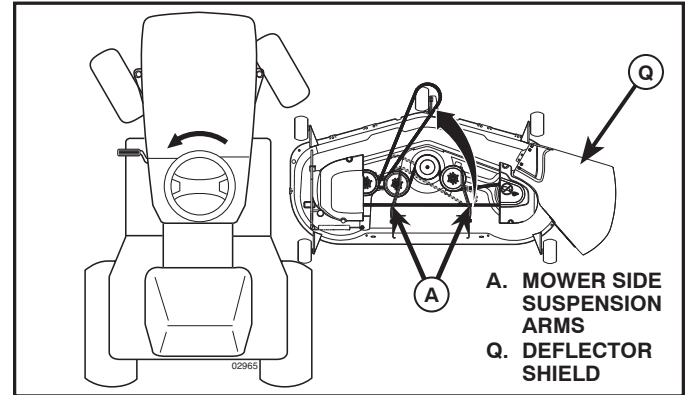

Fig. 7
4. SLIDE MOWER UNDER TRACTOR (See Fig. 7)
9 INSTALL BELT ON ENGINE CLUTCH PULLEY (M) (See Fig. 7 & 15)
- Disengage belt tension rod (K) from locking bracket (L).
- Install belt onto engine clutch pulley (M).